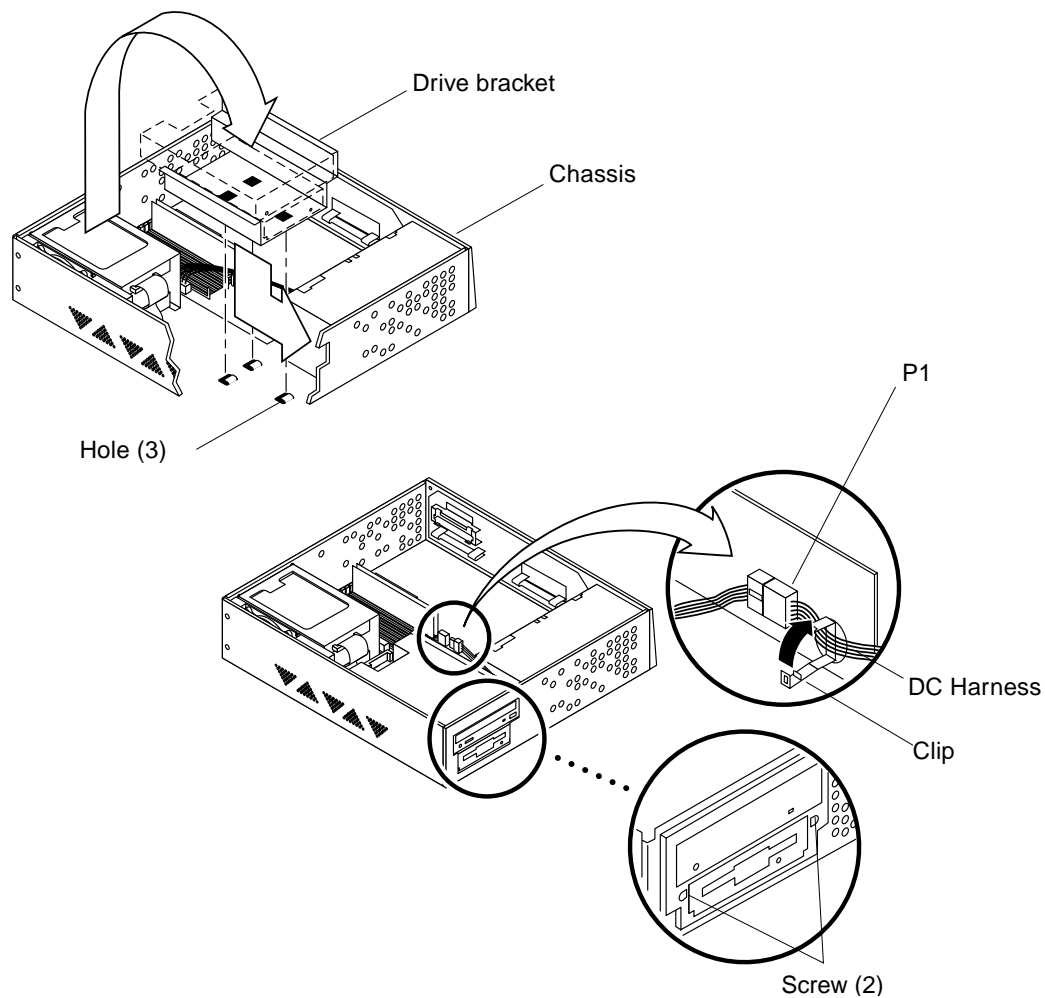

FIGURE 8-27 Replacing the Drive Bracket
5. **Position the bracket assembly into the chassis as follows (FIGURE 8-27):**